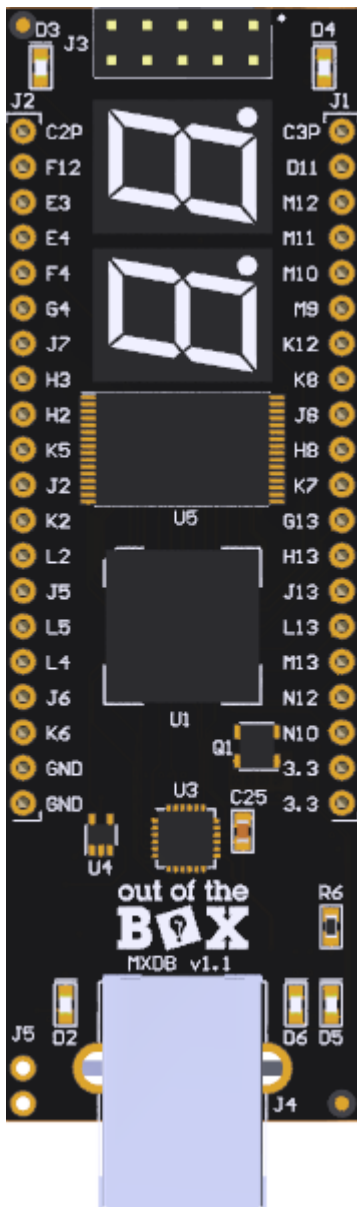

Figure 14: PLD PCB top layer with available FPGA pins
- To make sure you do **NOT** accidentally assign pins to the wrong location, use only the pins shown Figures 14 and 15. Do **NOT** use the clock pins for general purpose inputs or outputs, e.g., C2P (i.e., CLK2P, MAX 10 pin G9) and C3P (i.e., CLK3P, MAX10 pin F13); use these pins only for clock inputs.